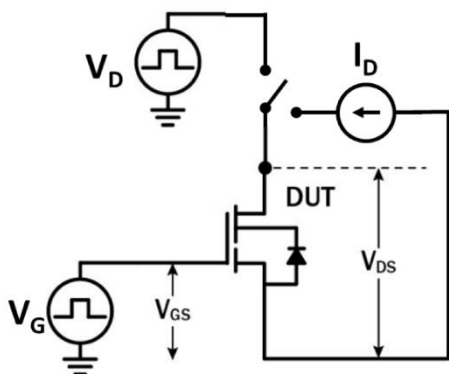

Figure 20. Dynamic $R_{DS(on)eff}$ Test Circuit
- f. Dynamic on-resistance; see Figures 20 and 21 for test circuit and conditions